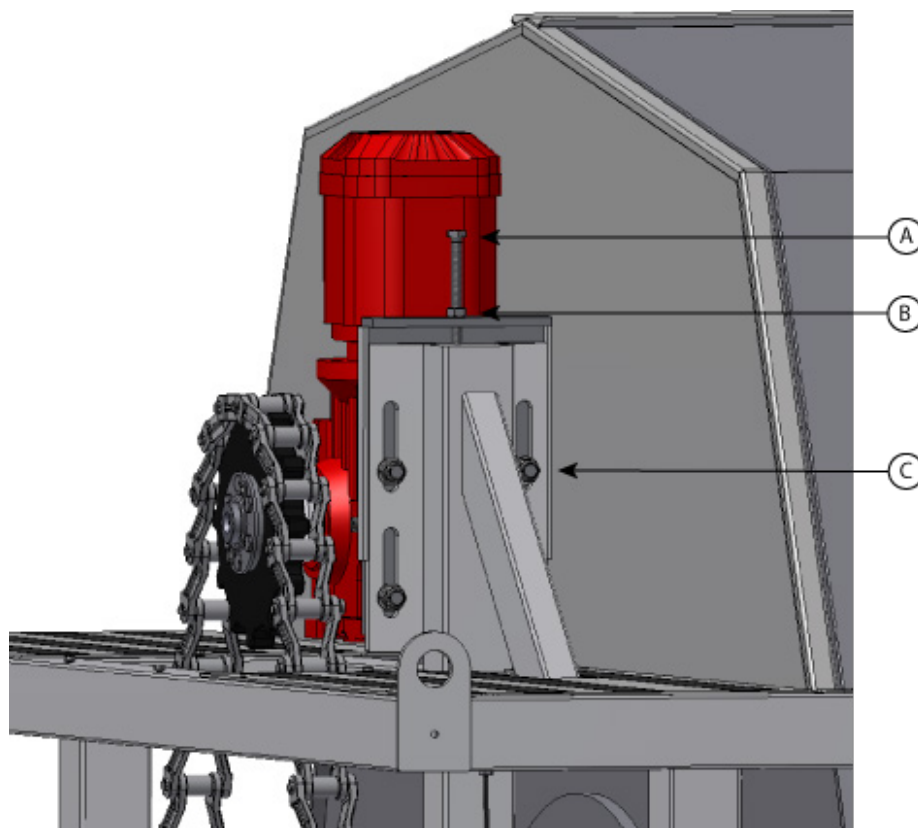

Figure 8.12 Gearbox and chain type H78
1. Stop the filter (turn the main power switch to the OFF (0) position and lock it with a padlock).
2. Loosen the four nuts that hold the worm gear in place (see Figure 8.12).
2. Loosen the four nuts that hold the worm gear in place; see Figure 8.12.